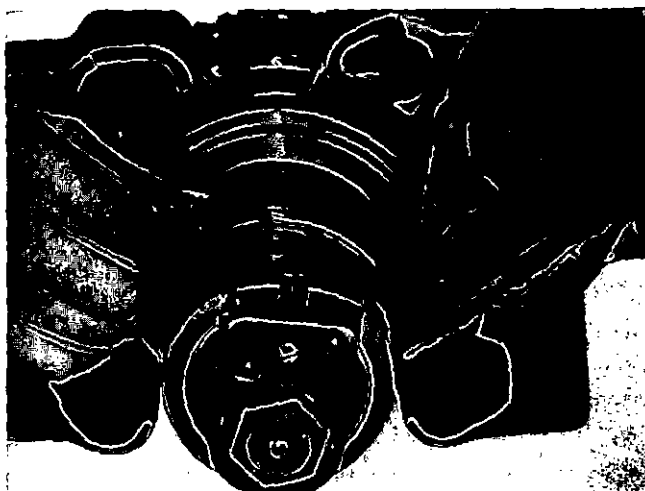

Fig. 1-22 (V10184). Install The O-Ring.
1. Use the centering ring that will fit in the counterbore for the cylinder liner. Remove the O-ring from the boring tool. Install the centering ring on the boring tool. Make sure the taper in the ring is toward the tool to hold the ring on the tool, Fig. 1-22.